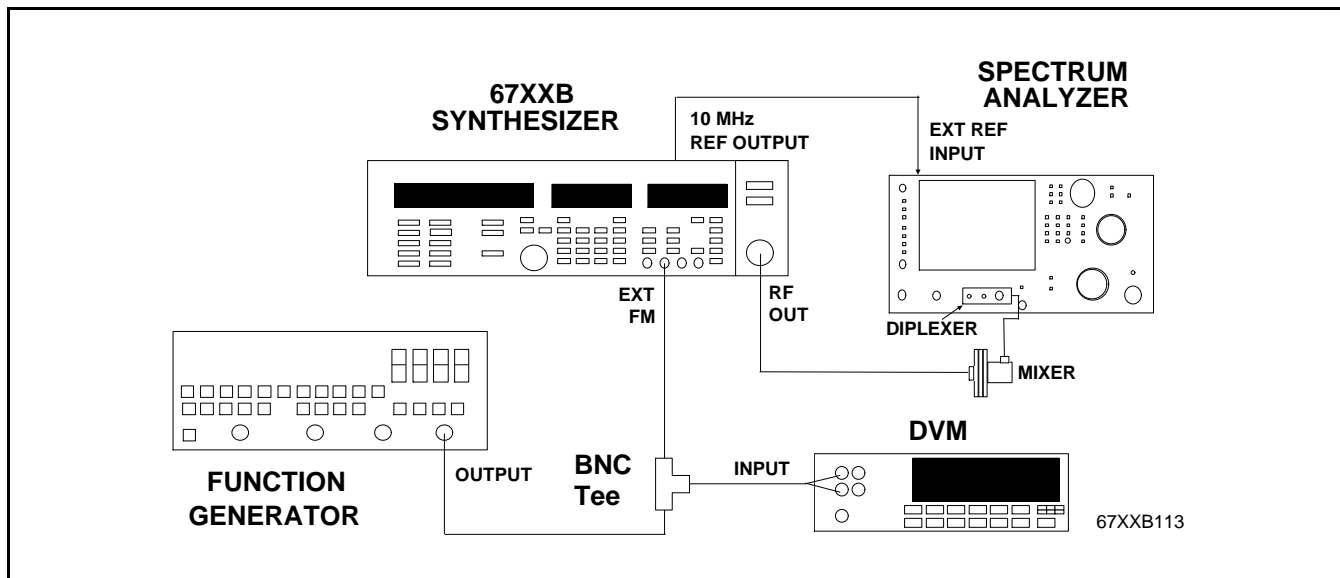

Figure 3-16. Test Equipment Setup for FM Sensitivity Calibration (20 to 60 GHz)
1. Connect the equipment, shown in Figure 3-16, as follows: